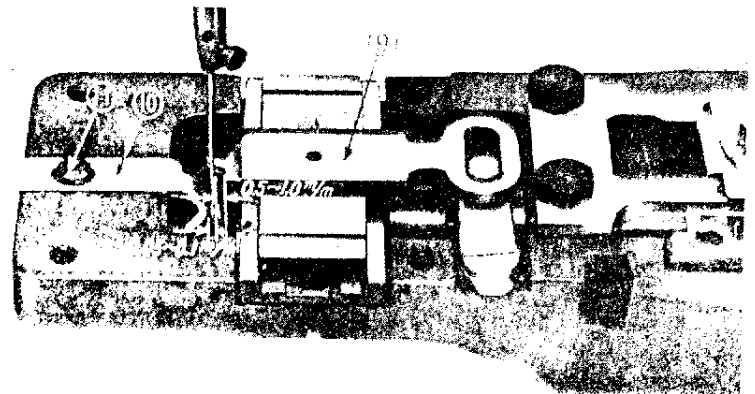

Fig. 16
POUR PREVENIR TOUT RISQUE DE DEPLACEMENT PENDANT LE REGLAGE, SERRER LEGEREMENT UNE DES VIS SUR LE COTE DE LA CAME ET DU MANCHON (6). DESSERER LA VIS (5) TOURNER LA CAME DU DOIGT DE POSITIONNEMENT (ARRIERE) ET A LA POSITION LA PLUS AVANCEE DU DOIGT - FIG. 16 (9) PRODUISE UN ESPACE DE 0.5 A 1.0MM ENTRE L'AIGUILLE ET LE BORD DU DOIGT DE POSITIONNEMENT.
S'ASSURER QUE LA LA HAUTEUR DU DOIGT - FIG 16 (9) A LA POSITION OU IL COMMENCE A SE DEPLACER DE LA DROITE VERS LA GAUCHE (FACE A LA MACHINE) EST D'ENVIRON 55 A 58MM DEPUIS LE POINT SUPERIEUR DU GUIDE AIGUILLE SUPERIEUR AU POINT SUPERIEUR DE LA BARRE A AIGUILLE. SI LA HAUTEUR EST INSUFFISANTE, CELA POURRA CONDUIRE A DES CASSES D'AIGUILLE.
15. POSITION DU GARDE AIGUILLE - FIG. 16